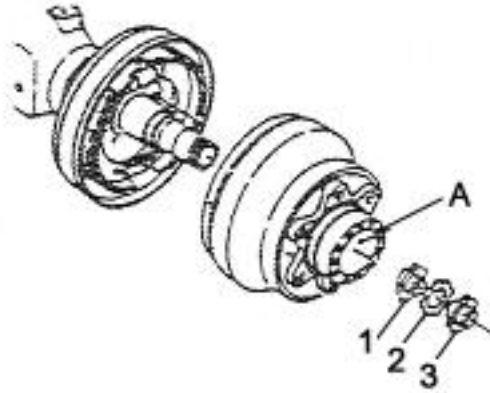

Figure 2-4 Add grease
- (1) Add 100ml grease into the wheel hub, and then install it on the shaft. (Figure 2-4)
- (2) Tighten the adjusting nut with a torque of about $9.8\text{N}\cdot\text{m}$ and then turn it $1/2$ turn.